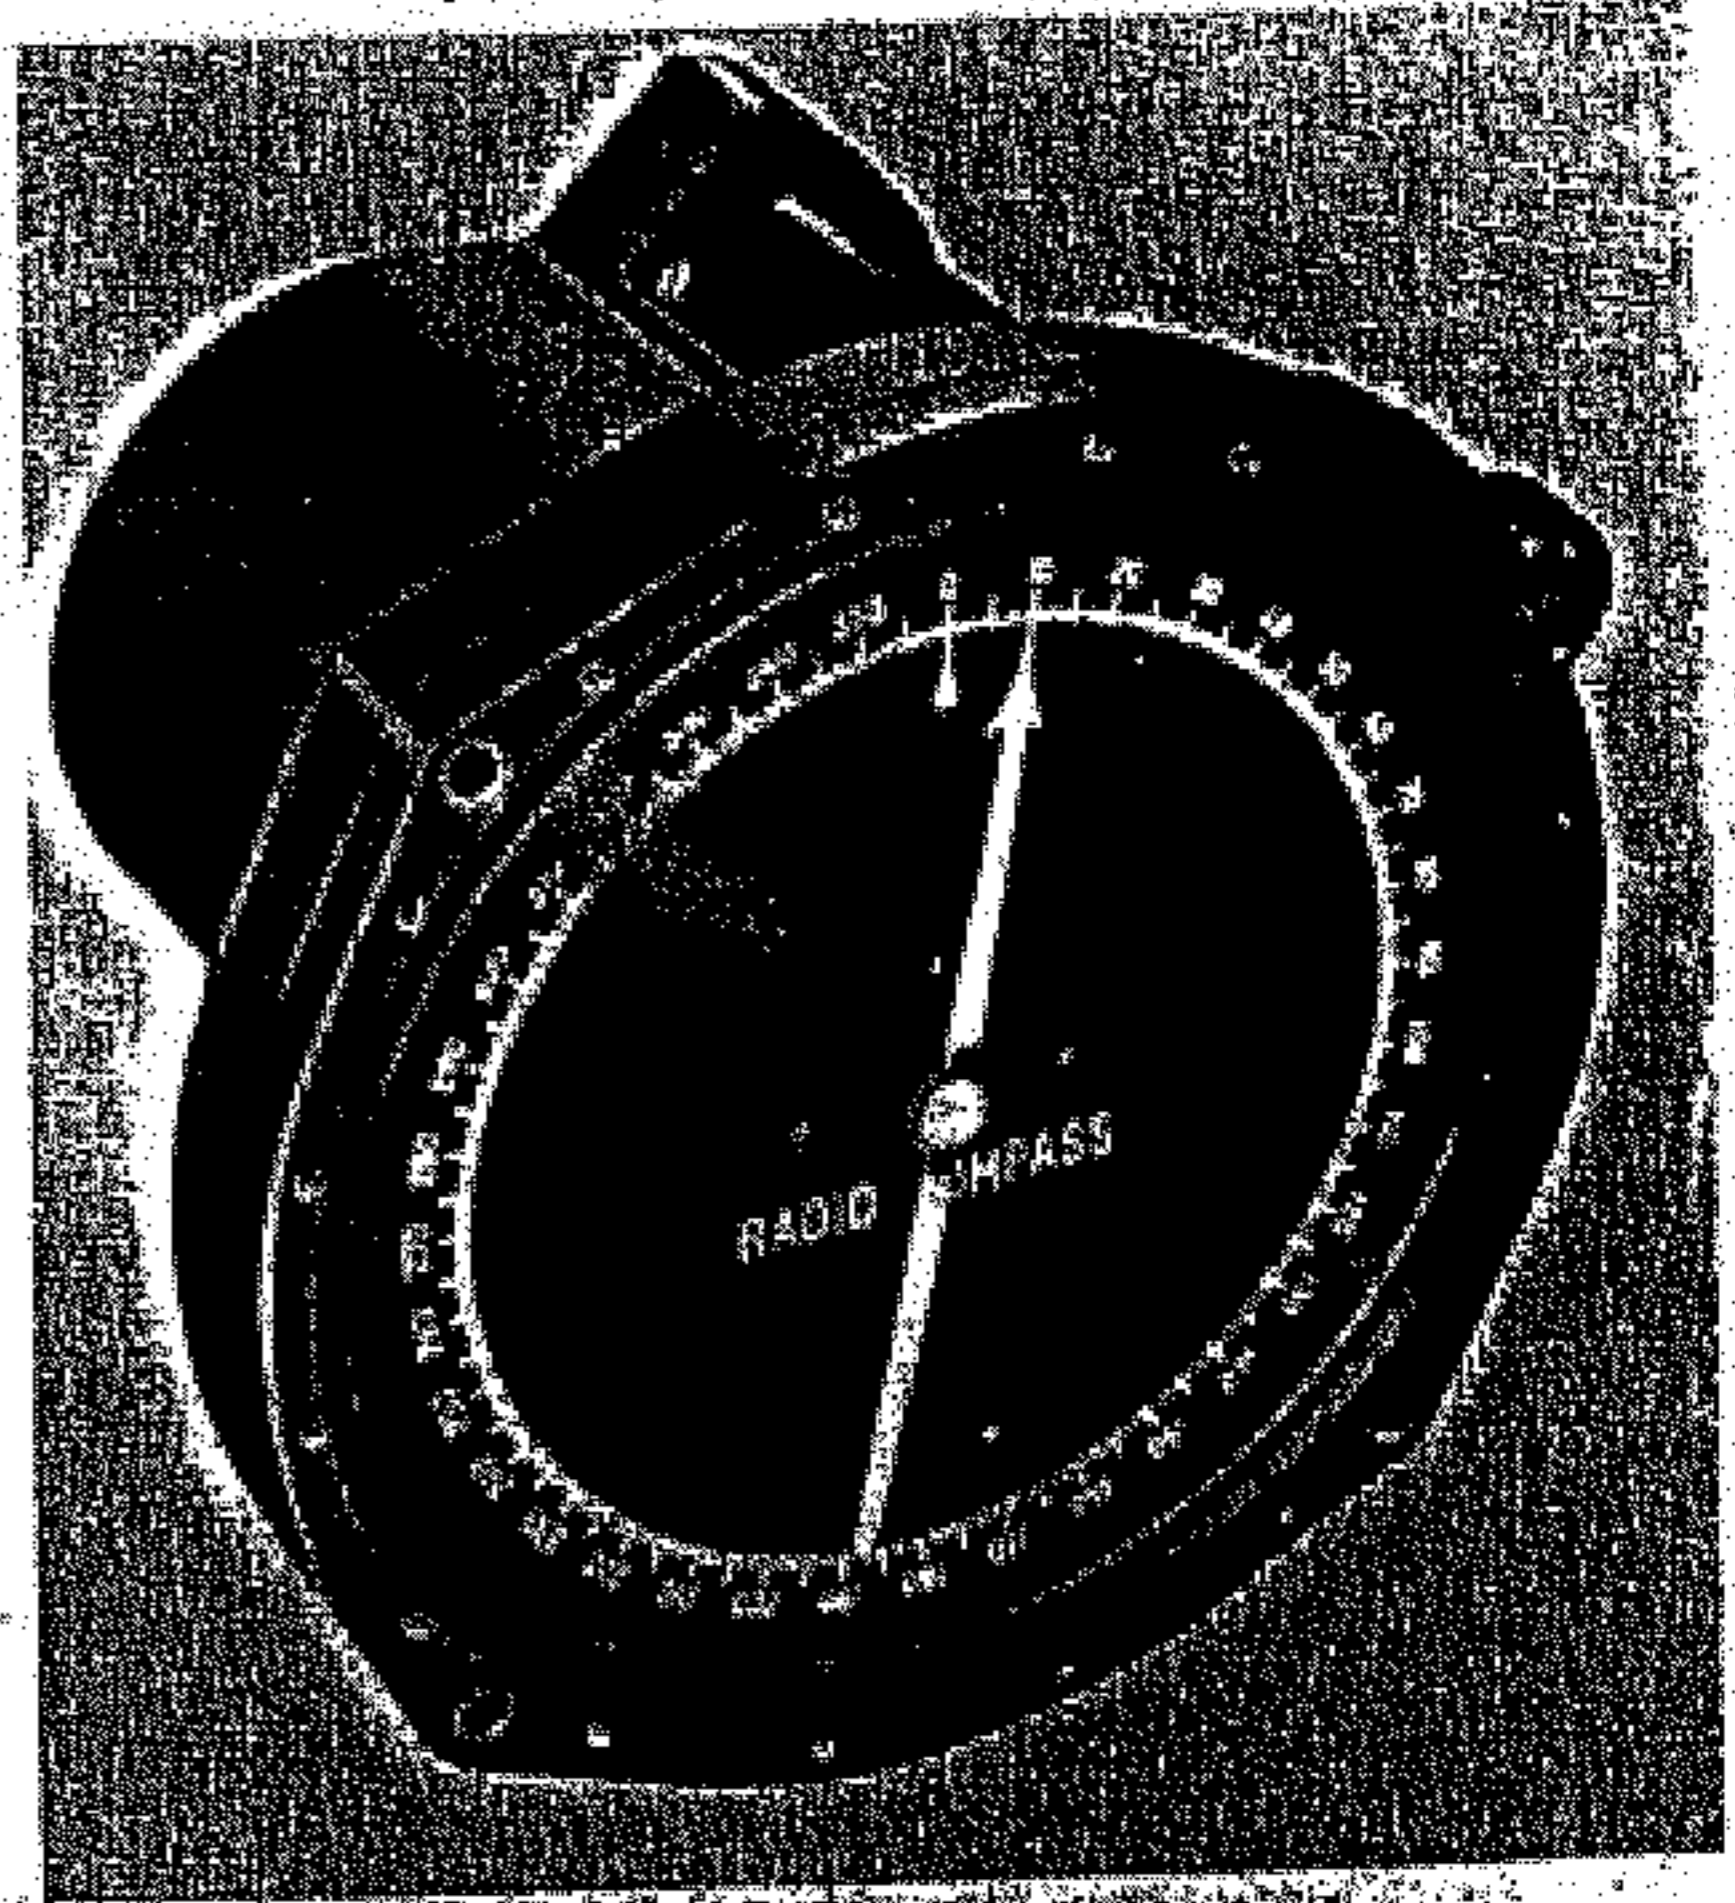

Figure 1-11. Indicator ID-92/ARN-6 or ID-92A/ARN-6
**INDICATOR ID-92/ARN-6 AND ID-92A/ARN-6 (NAVIGATOR'S).** (See figure 1-11.)—Indicator ID-92/ARN-6 or ID-92A/ARN-6 (Navigator's) is an autosyn driven device similar to ID-90/ARN-6 or ID-90A/ARN-6 with the exception that a larger scale is used. The scale is graduated every degree and in addition every 10-degree graduation is indicated by the proper numeral. The azimuth scale may be manually rotated by means of a "VAR" knob located on the front of the indicator.